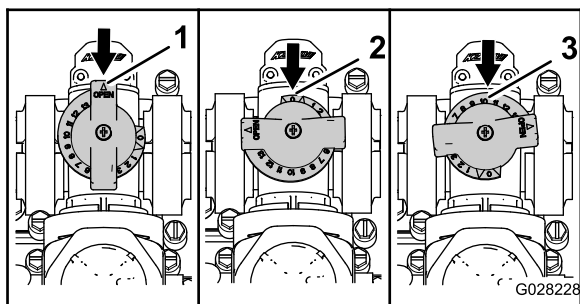

Figure 130
- The agitation bypass valve is in the full OPEN position as shown in Figure 130.
- The agitation bypass valve is in the CLOSE (0) position as shown in Figure 130.
- The agitation bypass valve is in an INTERMEDIATE (adjusted relative to the pressure gauge for the sprayer system) position as shown in Figure 130.